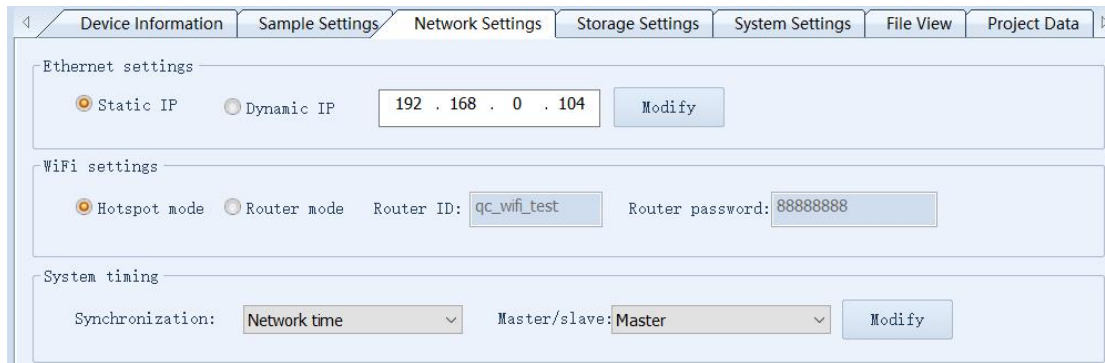

Fig. 2-15 RAEM1 Configuration Software “Modify” button
⑦ In the “**Network Settings**” page, the “**Modify**” button is only to modify the current selected RAEM1’s configurations, for example **Ethernet setting**, and **System settings**. After changing the values in those frames, click “**Modify**” buttons to pop out the window as Figure 2-15. Click the “Setup” button to send the device. No need to click “Set Device” button after.